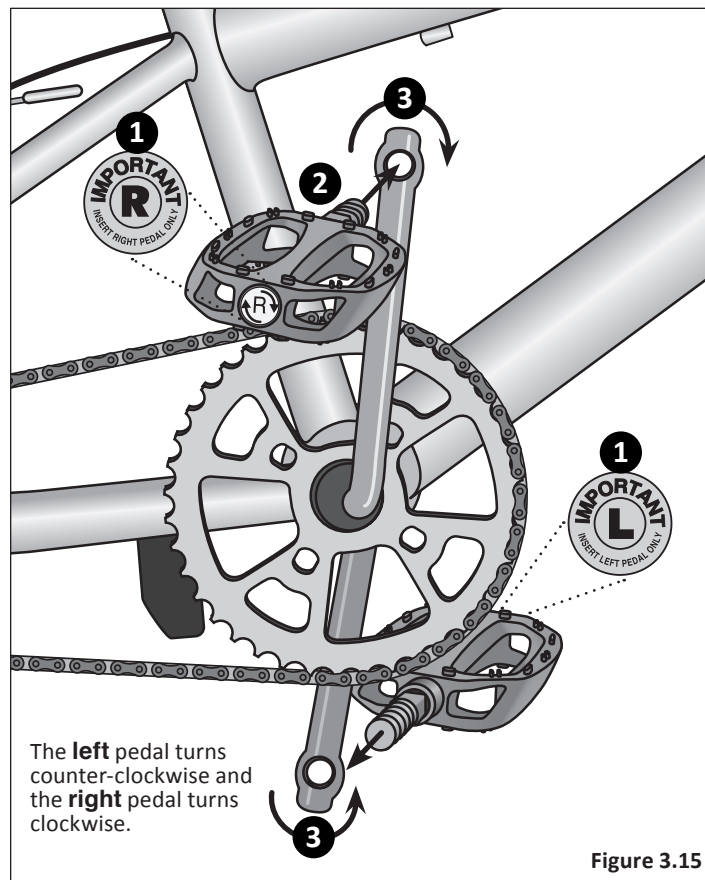

Figure 3.15
- 1 Match the pedal marked **R** with the right-hand crank arm, and match the pedal marked **L** with the left-hand crank arm. **Figure 3.15**